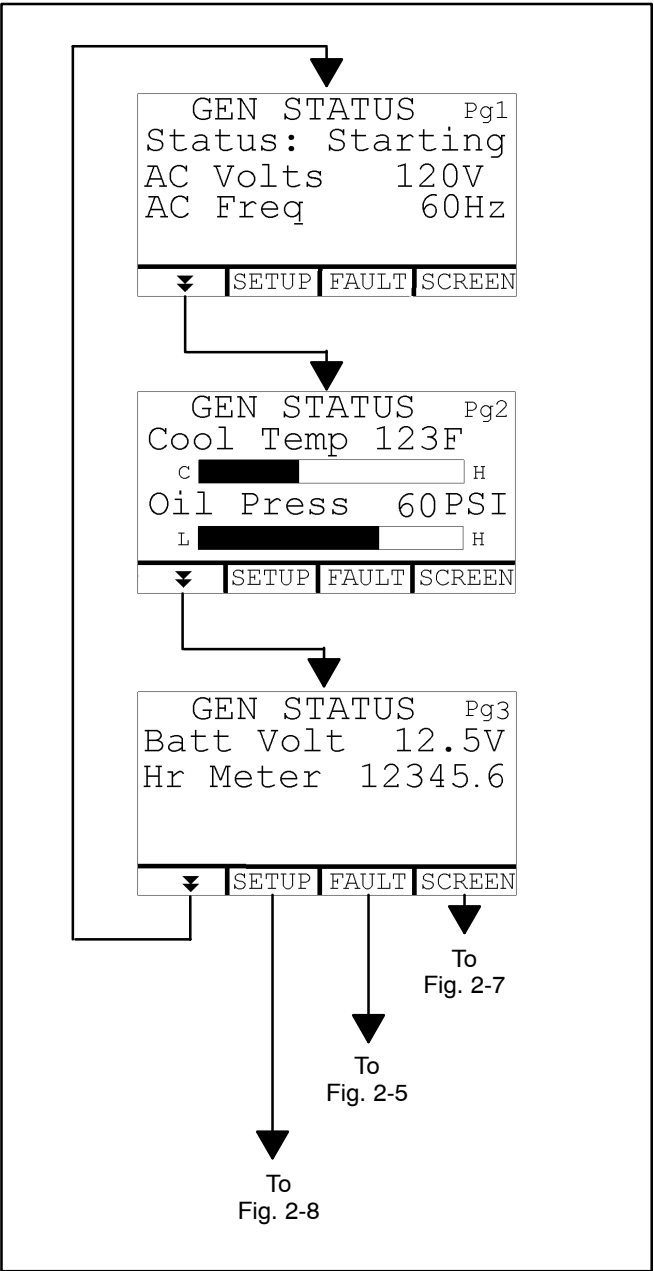

FIGURE 2-3. TYPICAL GENSET STATUS SCREENS
Starting the Genset: Push and Hold **START** until the genset starts. The GENSET status lamp blinks while the engine is cranking. It comes on when the genset starts and stays on while it runs. The status displayed on the LCD changes from *Starting* to *Running* (Figure 2-3). See STARTING THE GENSET (p. 3-3).
Stopping the Genset: Push and Release **STOP**. The GENSET status lamp will go out. The status displayed on the LCD will change from *Running* to *Stopped* (Figure 2-3). See STOPPING THE GENSET (p. 3-4).
Priming the Fuel System: Push and Hold **STOP**. The GENSET status lamp will blink. The status displayed on the LCD will change to *Priming* in 2 seconds (Figure 2-3). See PRIMING THE FUEL SYSTEM (p. 3-3).
Genset status is displayed on 3 screen pages (Figure 2-3). GEN STATUS PG1 appears when the Display is turned on. Press the double arrows [↵] to toggle between the 3 screen pages.
1. *Push and Hold* **START** on the e-Series Digital Display or control switch until the genset starts. The genset status lamp blinks when the engine is cranking and comes on and stays on when the genset starts and runs. The status displayed on the e-Series Digital Display changes from *Starting* to *Running* (Figure 2-3).